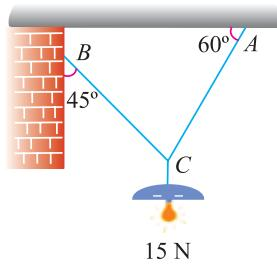

Fig. 5.3.
**Example 5.1.** An electric light fixture weighting 15 N hangs from a point  $C$ , by two strings  $AC$  and  $BC$ . The string  $AC$  is inclined at  $60^\circ$  to the horizontal and  $BC$  at  $45^\circ$  to the horizontal as shown in Fig. 5.3